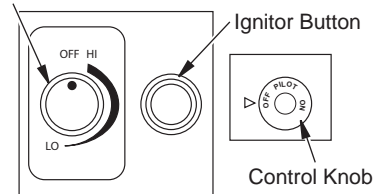

Figure 29 - Control Knob and Ignitor Button Location
5. Wait five (5) minutes to clear out any gas. Then smell for gas, including near the floor. If you smell gas, STOP! Follow "B" in the safety information, column 1. If you don't smell gas, go to the next step.
6. Press in and turn control knob counter-clockwise ↺ to the PILOT position. Press in control knob for five (5) seconds (see Figure 29).